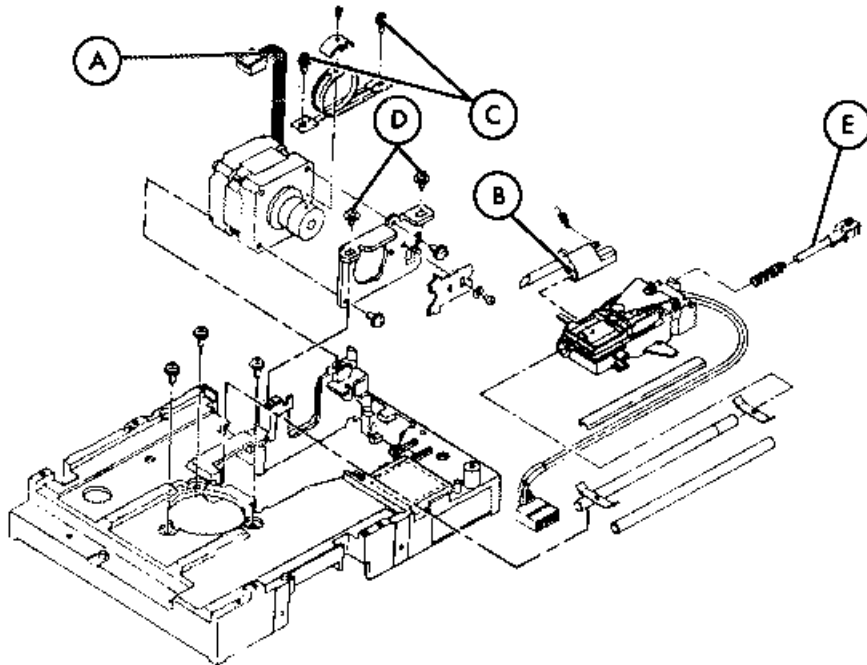

FIGURE 4-12. STEPPER MOTOR REMOVAL/REPLACEMENT
4.3.11 Stepper Motor Removal (Figure 4-12)
4.3.12 Stepper Motor Replacement (Figure 4-12)